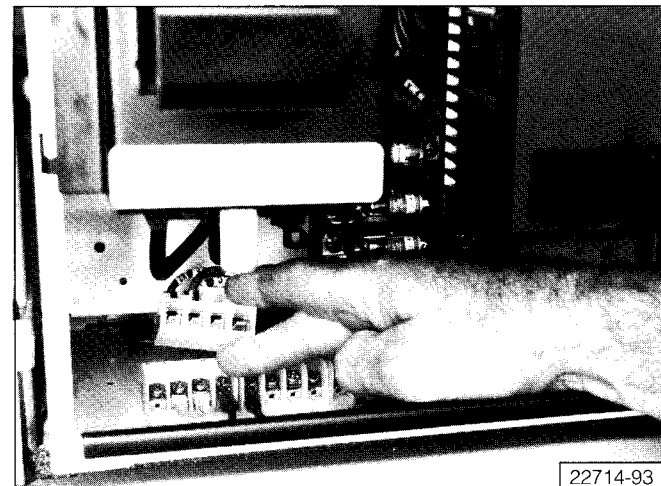

Figure 22B: Move Non-Stationary Portion Over Fixed Portion.
7. Lift and hold non-stationary portion of terminal blocks up and over fixed portion, as shown in **Figure 22B**.